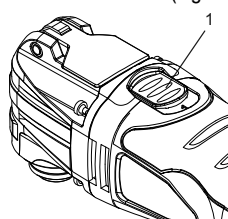

Figure 4
5. Turn the tool ON. (Figure 4)
4. Turn the switch ON. (Figure 4)
3. Turn the switch ON. (Figure 4)